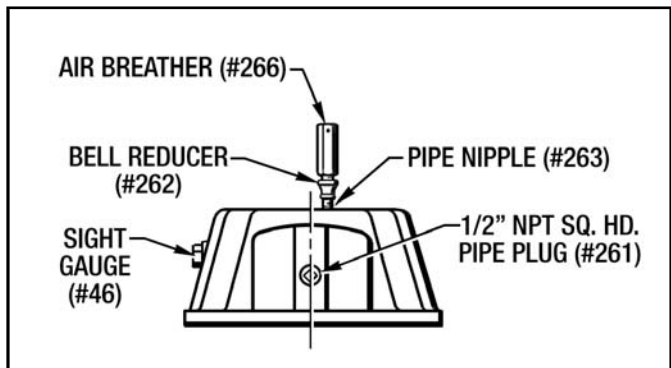

Figure 3.10 - Vertical Up Mounting Kit
4. Install Air Breather (#266) into End Housing (#9) along with bell reducer and nipple, furnished with vertical kit (See Figure 3.10).
5. Remove Sight Gauge (#46) from End Housing (#9) (See Figure 8.1) and install it into the 1/2" N.P.T. hole where the Air Breather (#45) was located (See Figure 3.10)
6. Plug old sight gauge hole with a 1/2" N.P.T. Sq. Hd. Pipe Plug (#261) (See Figure 3.10). This plug is furnished with the Vertical Mounting Kit.